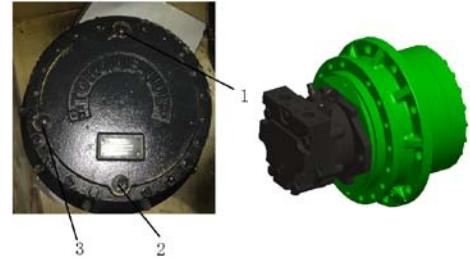

Figure 3-16
3.4.3.2 Check the level of the front wheel hub. (Figure 3-16)